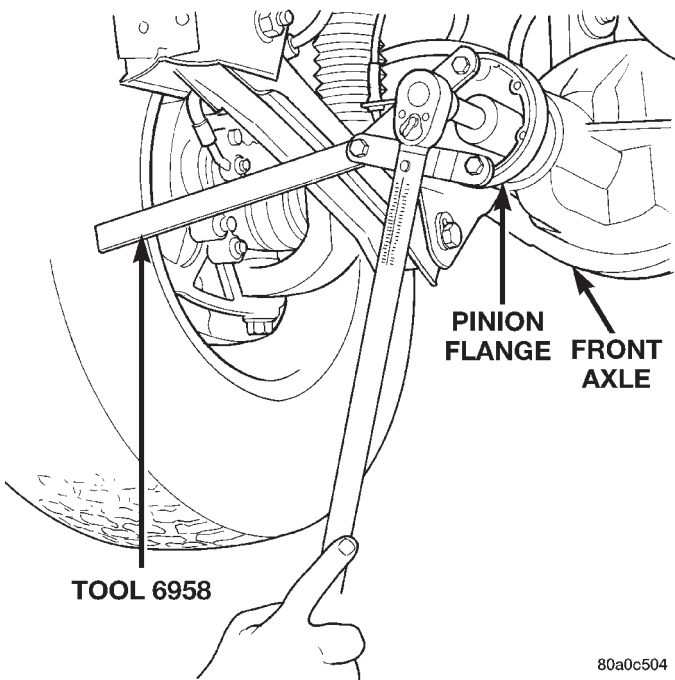

Fig. 10 Tightening Pinion Shaft Nut—Typical
(5) If the rotating torque is low, use Holder 6958 to hold the pinion yoke (Fig. 10), and tighten the pinion shaft nut in 6.8 N·m (5 ft. lbs.) increments until proper rotating torque is achieved.